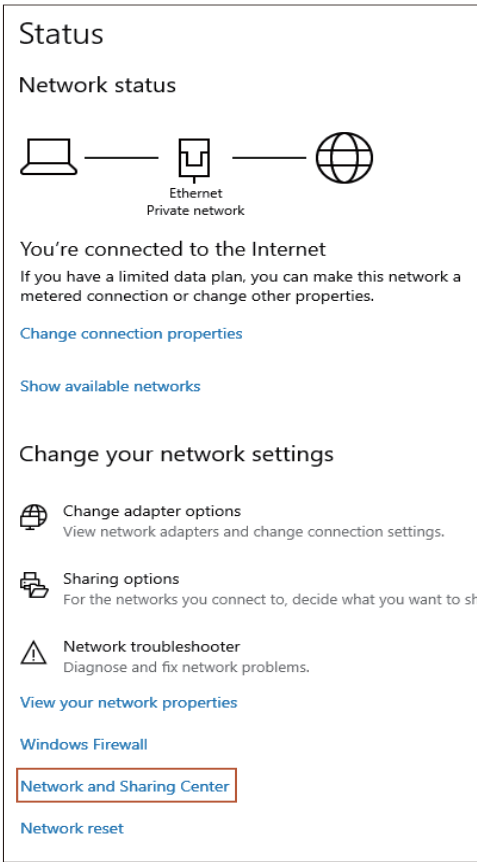

Figure 4.1
(1) Connect the Control Box to the PC directly with a Network Cable, and then modify the IPV4 address of the PC to be the same as the network segment of the Control Box. The factory IP address of the device has been marked on the side of the Control Box. The IP settings on the PC are shown in Figure 4.1 -4.5;